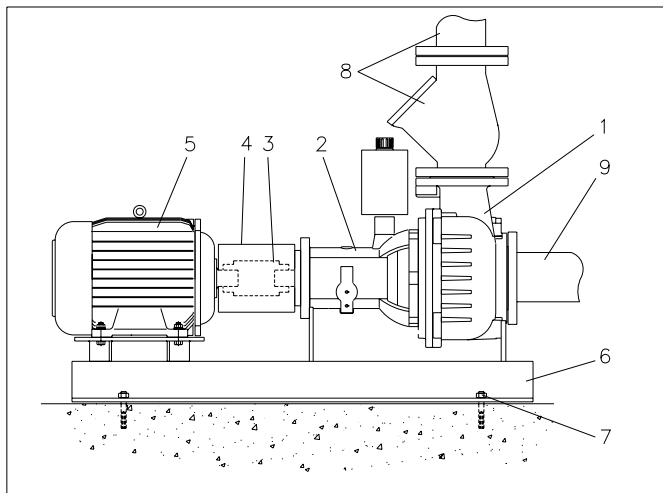

Fig. 7.1
See fig. 7.1
- fixation of the baseplate to the floor, see fig. 7.1 pos. 7.
Remove the protection hood, (see fig. 7.1 pos 4).